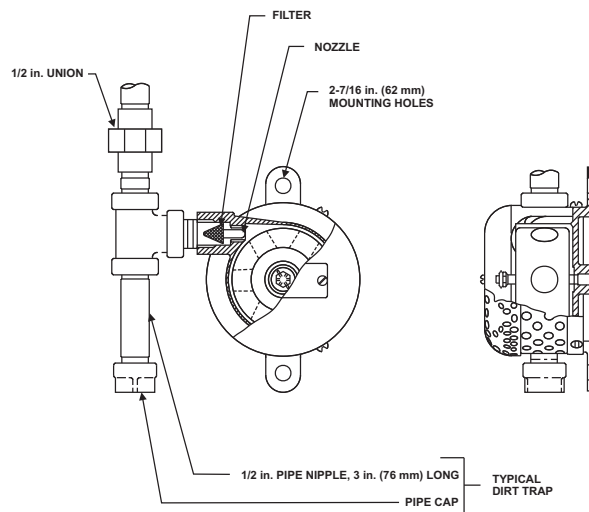

Figure 4-47. Pressure Operated Siren
- Install a dirt trap and union as shown in Figure 4-47.